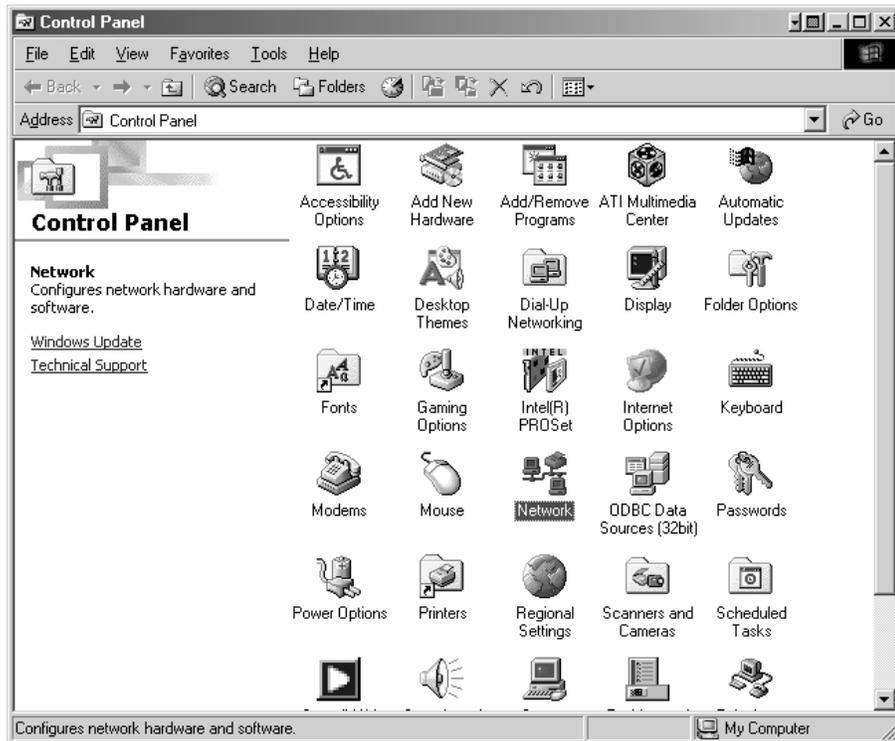

Figure 112: Control Panel
1. On the installer laptop, go to **Start**→ **Settings**→ **Control Panel** and double-click **Network**. See Figure 112.